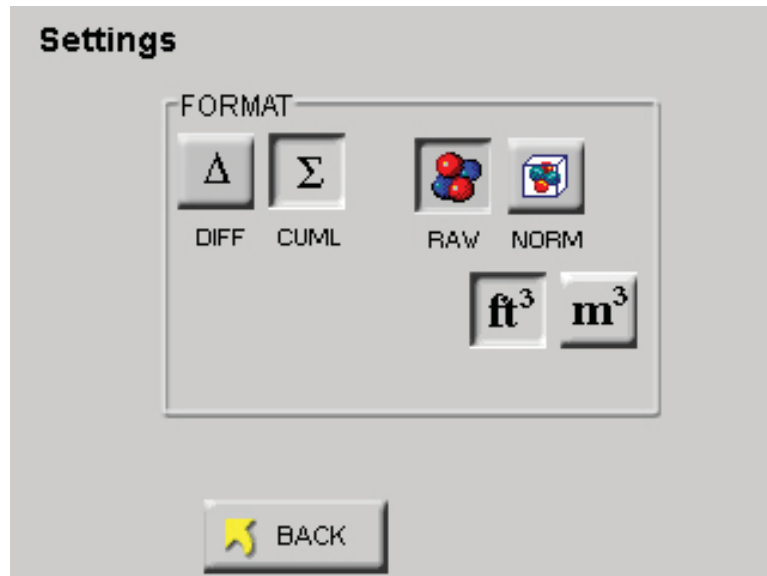

Figure 6-97 Reports Settings Screen
- Press the SETTING button to format the instrument for CUML/ DIFF, RAW/NORM, ft³/m³ as shown in Figure 6-97.